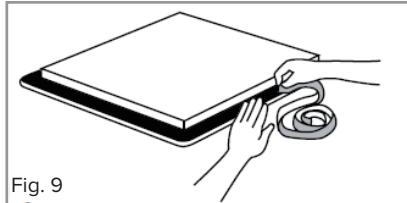

Fig. 9
If a cooker hood is to be installed above the hob, the height of the hood above the hob must be at least 600mm (650mm is recommended) (Fig. 9). If the instructions supplied with the hood dictate that the hood must be installed at a height greater than 600mm, then that height is the minimum required.
2. Position the hob seal, as shown in Fig. 9, ensuring that the ends meet without overlapping. Do not use silicone type sealant.